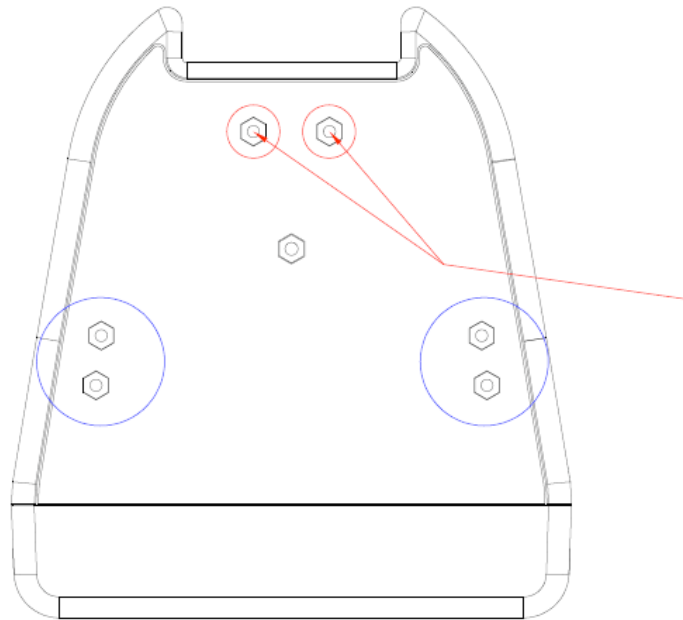

Figure 3
For the One Systems 212IM and 312CIM a total of four (4) M10 “eye” bolts must be used, as shown in figure 3 below.